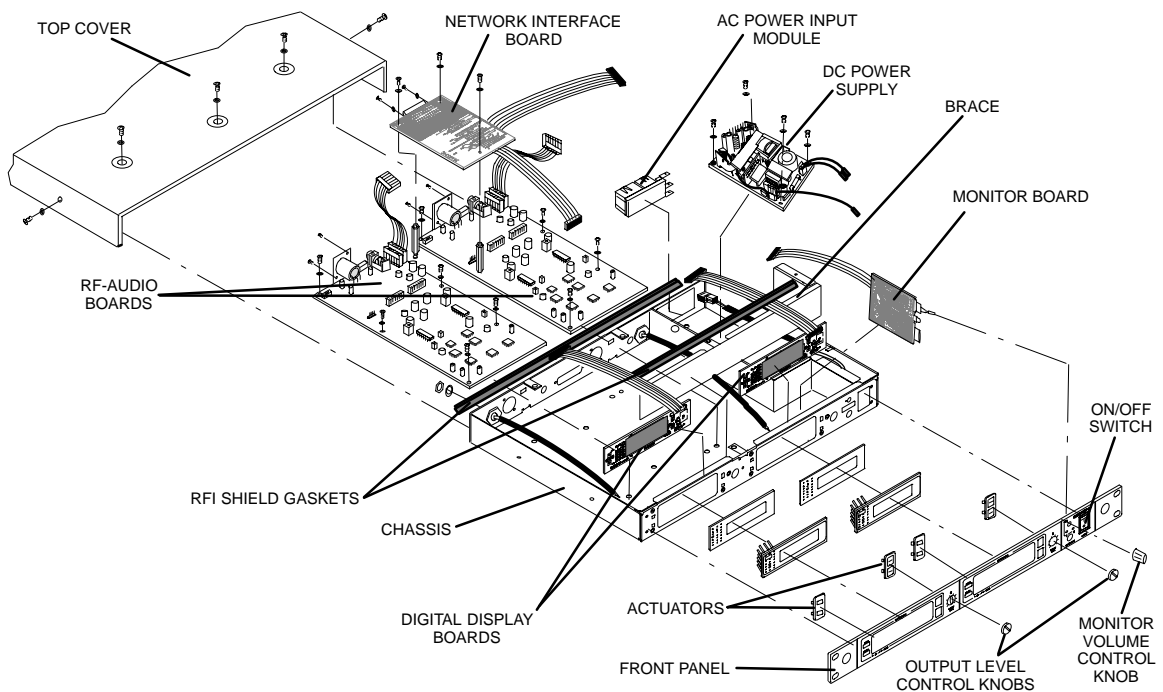

Figure 1. Receiver Disassembly and Assembly
2. Remove five screws and washers from the top of the receiver and two screws and washers from the sides of the receiver. See Figure 1.